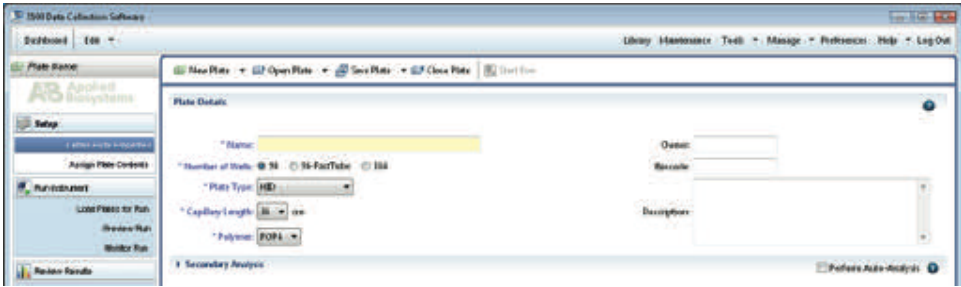

Figure 12. Defining plate properties.
4. Assign a descriptive plate name. Select the plate type “HID” from the drop-down menu (Figure 12).